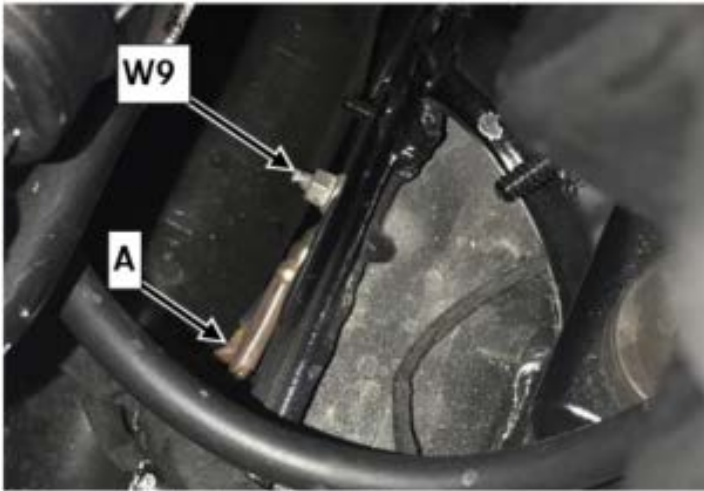

Figure 1
4. Remove illuminated star ground line (**A, figure 1**).
6. Route illuminated star ground line (**A, figure 1**) to jump-start connection point and attach to threaded pin of jump-start connection point.
8. Secure illuminated star ground line (**A, figure 1**) up to jump-start connection point.